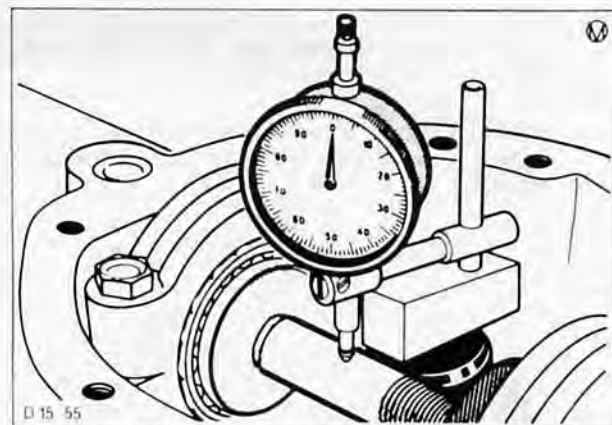

Fig. 78. Dial indicator at 'O' (max. deviation 0,01 mm)
28. Re-check zero setting of dial indicator in dial indicator mounting block using setting gauge and place mounting block on the end of the master pinion. If dial indicator plunger is now moved across gauge bar as before (sub-operation 23), indicator reading must be 'O' if previous measurements were accurate. Discrepancies of up to 0,01 mm from 'O' are permissible, Fig. 78.